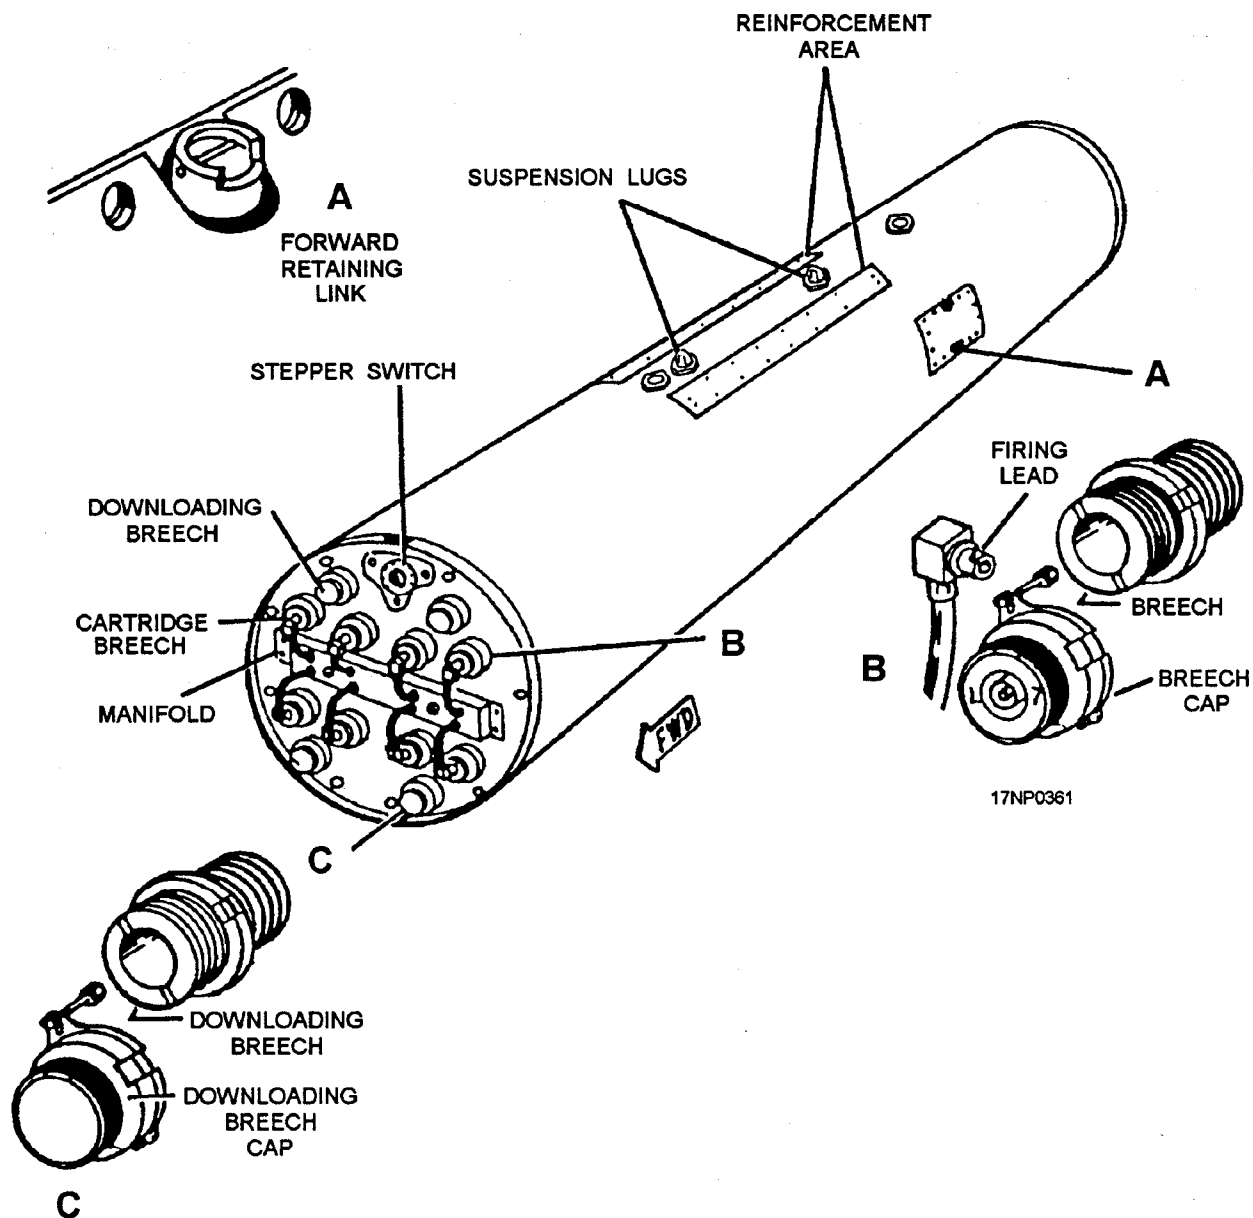

Figure 13-32.—SUU-25F/A downloading breeches.
5. Open four downloading breech caps (fig. 13-32).